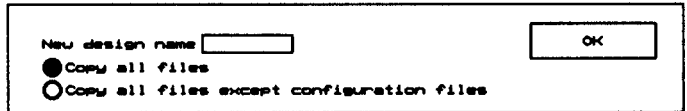

Figure 2-3. *New design name window.*
2. Select **Create Design**. The window shown in figure 2-3 displays.